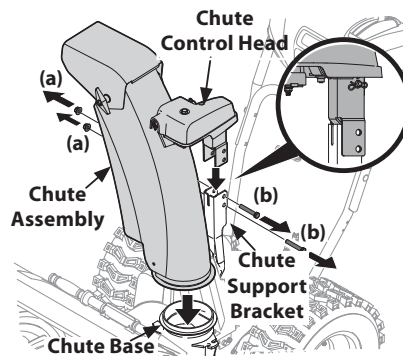

Figure 2-34
1. Remove lock nuts (a) and hex screws (b) from chute support bracket (this will require two wrenches). See Figure 2-34.
2. Place chute assembly onto chute base and chute control head onto chute support bracket. See Figure 2-34.